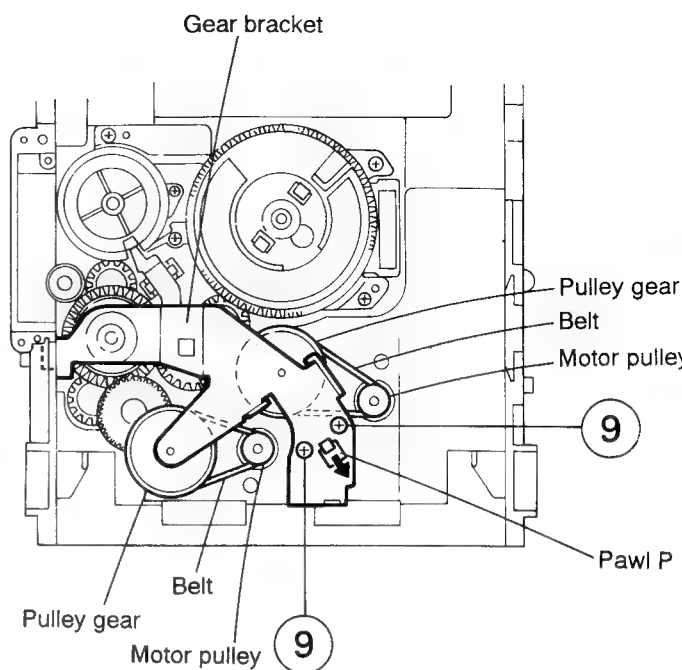

Fig. 5-33
1. Remove the two screws (9) retaining the gear bracket (See Fig. 5-33).
2. While pressing the pawl (P) fixing the gear bracket in the arrow direction, remove the gear bracket (See Fig. 5-33).
6. Mount the FR arm assembly. In this case, the FR arm assembly should be set carefully by aligning it to the two positions in Fig. 5-33. Then, confirm that the FR arm is returned to the initial position when it is moved in the arrow direction.